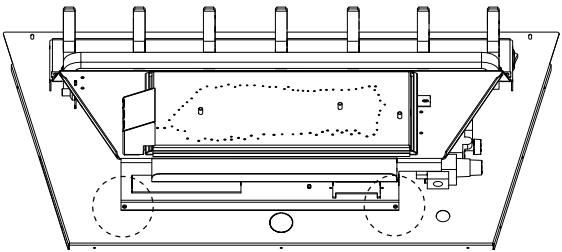

FIG. 1: Back View of Burner Assembly
2. Remove the two screws securing the burner assembly in place (FIG. 1). Lift the assembly up and out of the appliance.